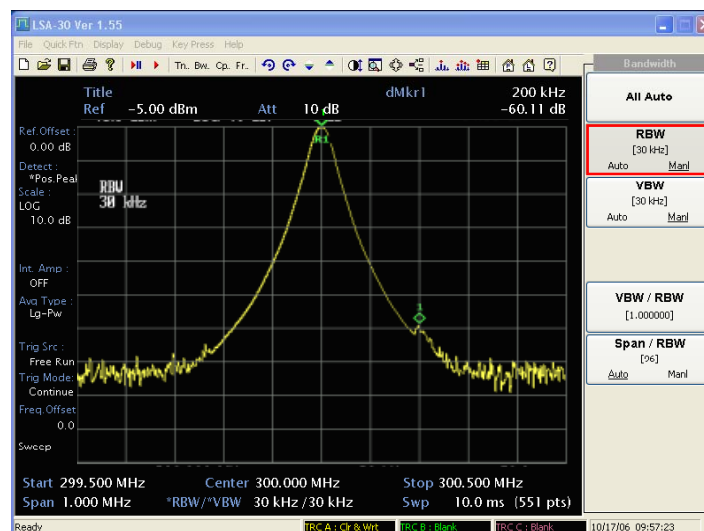

Fig. B-7 Signal resolution with a 30 kHz resolution bandwidth
- 5 Place a marker on the smaller signal by pressing [Marker], [Delta], [Peak], [Next Pk Right]. If a 30 kHz filter is used, the 60 dB bandwidth could be as wide as 450 kHz. Since the half-bandwidth (225 kHz) is wider than the frequency separation (200 kHz), the signals most likely will not be resolved (Fig. B-7). (In this example, we used the 60 dB bandwidth value. To determine resolution capability for intermediate values of amplitude level differences, assume the filter skirts between the 3 dB and 60 dB points are approximately straight.)